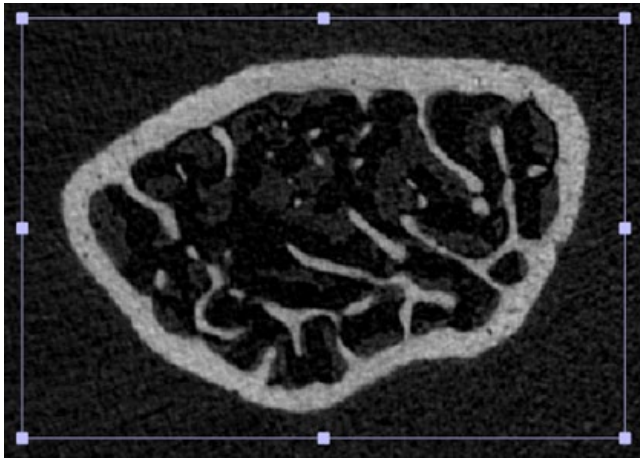

Figure 13: Screenshot of VOI box encapsulating area of trabecular bone.
around. Refer to Figure 13 for a visual reference. If this VOI box contains bits of other bones by chance, it will not affect the subvolume script.
24. A VOI (Volume of Interest) box will appear over the bone. To adjust the VOI box around your bone, place your mouse cursor over any line of the box → click and hold the left mouse button → drag the box around the bone of interest → release the left click once satisfied with the box’s placement. Crop the box as necessary to encapsulate ALL of the bone by holding left click on the squares of the VOI box and dragging them around. Refer to Figure 13 for a visual reference.